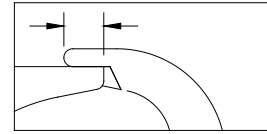

Fig. 7
- > Keeper extends into the bill, 3/16" min. (Fig. 7).